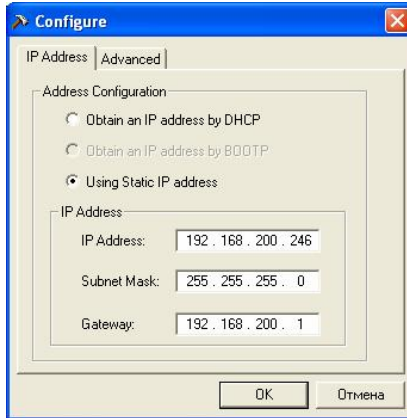

Figure 8 IP address for RPS
1. Click one of the displayed RPS and click **Configure** or double-click the RPS directly. The IP Address page appears, see Figure 8.